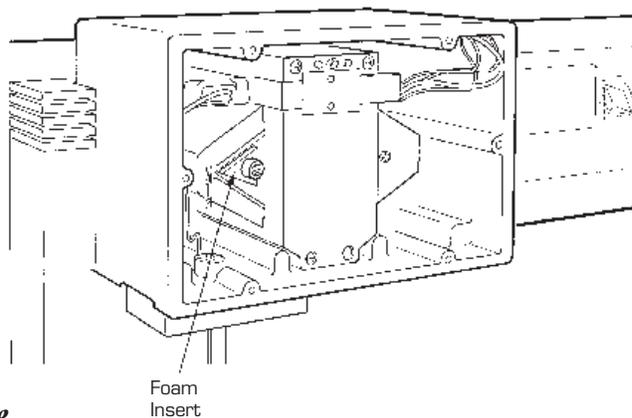

Figure 2.13
4. Using tweezers, remove the foam insert from around the screw hole (Figure 2.13):